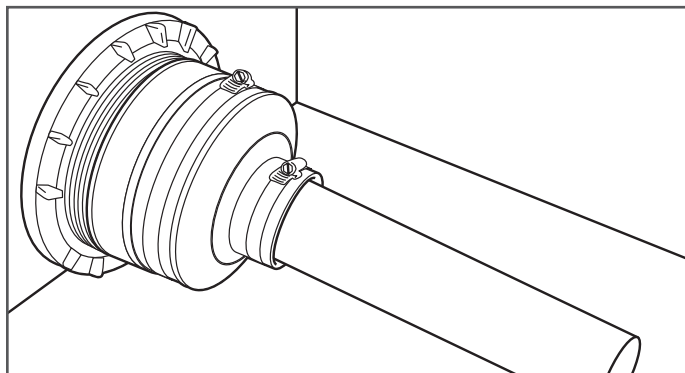

Figure 23-13
11. Refer to section 7 for instructions on how to install DoubleTrac field attachable fitting (Figure 23-13).